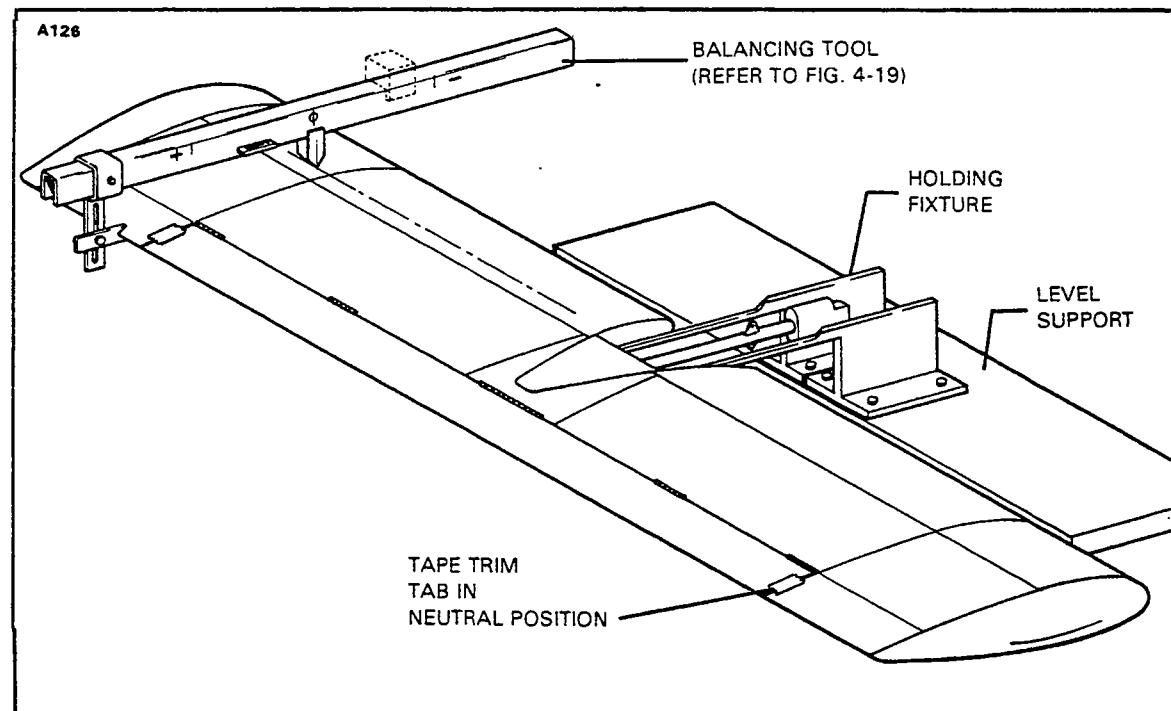

Figure 4-21. Stabilator Balance
4-75. BALANCING STABILATOR. (Refer to Figure 4-21.) To balance the stabilator, the assembly must be complete including the trim tab, the tab push rod and end bearing, stabilator tips and all attaching screws. Before balancing, tape the trim tab in neutral position with a small piece of tape. Place the complete assembly on the knife edge supports in a draft-free area in a manner that allows unrestricted movement. Place the tool on the stabilator with the beam perpendicular to the hinge centerline. Do not place the tool on the trim tab. Calibrate the tool as described in Paragraph 4-72. Read the scale when the bubble level has been centered by adjustment of the movable weight and determine the static balance limit. If the static balance is not within the limits given in Table IV-II, proceed as follows:
- c. Modify the wing end rib, balance arm hole as shown in Figure 4-21.